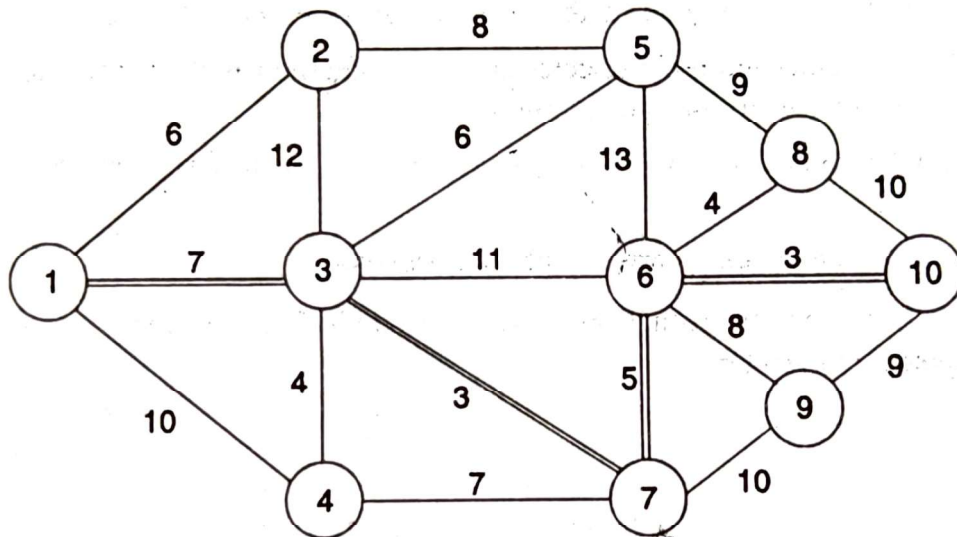

Fig. 5.2 Sketch of shortest path indicated using double line.
Step 13: The shortest path, presented in Fig. 5.2 with double lines, covers a distance of 18 units. The root followed from City 1 is 1-3-7-6-10.